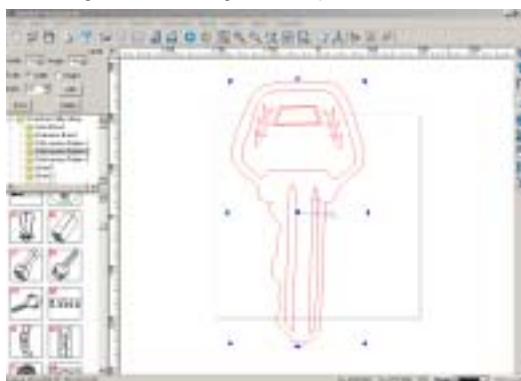

Fig. 12-33
2. Choose a symbol from the **Symbol Library**, and adjust the sizes of it if necessary. (Fig. 12-33)